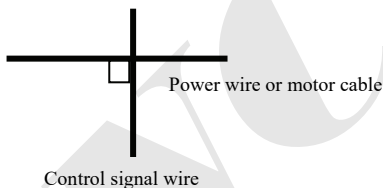

Fig.4-2 System wiring demand
(1) Inverter terminal motor connection wire (U, V, W terminal output wire) and inverter terminal power connection wire (R, S, T terminal input wire) should keep distance enough as possible as can.
(2) U, V, W terminal 3 motor wires should be placed in metal tube or metal wiring tank as possible as as.
(3) Generally control signal wire should use shield cable, when shield layer connect to inverter (⊕) terminal, it should be the single end earth grounding which closed to inverter side.
(4) Inverter (⊕) terminal earth grounding cable must directly connect to floor, it cannot connect to earth grounding through other device, and the location of earth grounding should close to inverter as possible as.
(5) Strong current cable (R, S, T, U, V, W) cannot parallel wiring closely with control signal wire, and bundled together is prohibited. It should keep distance from over 20~60 cm (Relative to strong current size). When it's necessary to intersect, it should be orthogonal crossing, show as Fig.4-2.